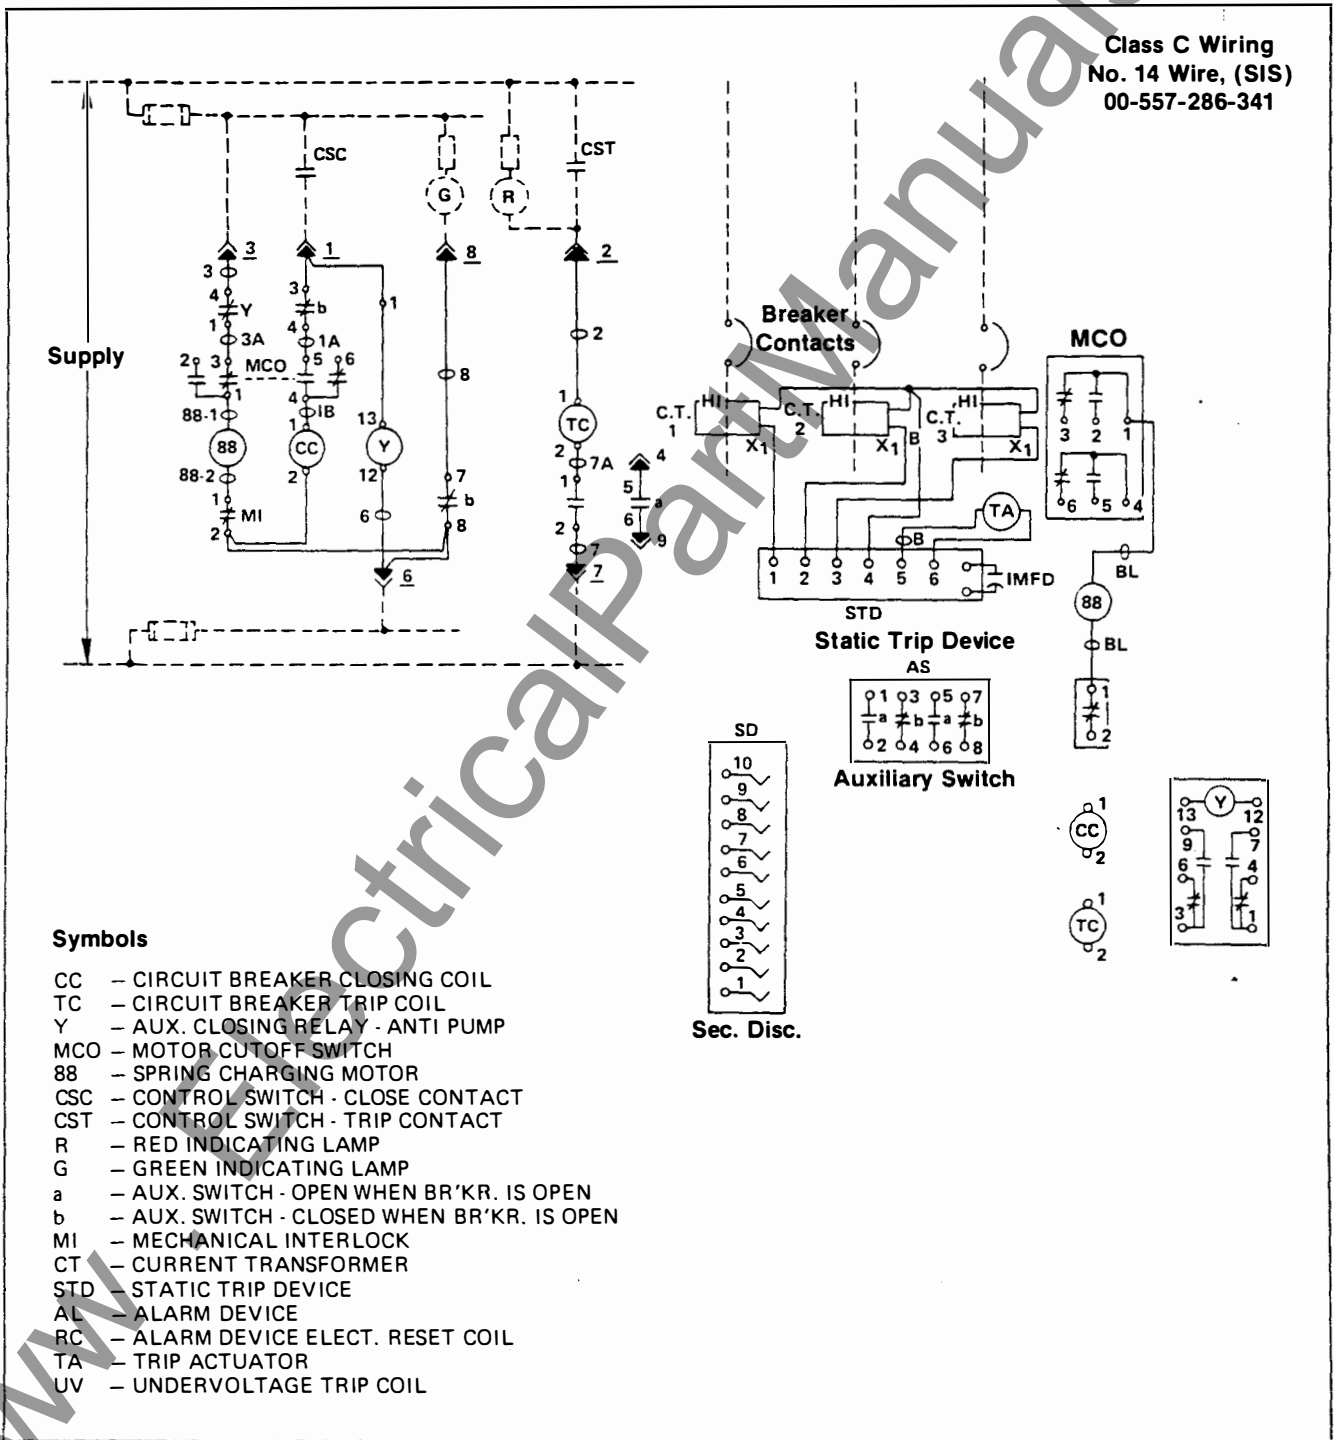

Figure 5. Typical Wiring Diagram — Electrically Operated Breakers
Tripping	<p>Push in manual trip bar (188),</p> <p style="text-align: center;">OR</p> <p>If shunt trip is provided, operate remote trip control switch (CST). See Figure 5.</p>
Electrically operated breakers do not have a manual charging handle, but it is available as a maintenance item. Figure 5 shows the charging handle installed in an electrically operated breaker after removal of the front cover from the breaker. When the hole in the charging handle assembly is aligned with the holes in the operating mechanism frame, the pin which is attached to the cam is inserted. This pin holds the assembly in place and acts as a pivot point for the cam. After installation of the manual charging handle assembly on the electrically operated breaker, the actual maintenance closing operation is the same for both the electrically operated breaker and the manually operated breaker. Refer to Table 3 and Figure 5.
With movable arcing contact (73) in any one phase touching the mating stationary contact when the breaker is closed by the maintenance closing method (See Table 3, Fig. 5), the phase-to-phase variation should not exceed .062 inches. Adjustment may be made by positioning screws (85) as in the previous paragraph, but it is essential that the main contact compression be maintained within the tolerance listed in the previous paragraph. Arcing contact pressure should be between 20 and 30 pounds when checked with a pull-type spring scale at the base of the arcing contact tip insert with the breaker contacts closed. Measure each blade separately.